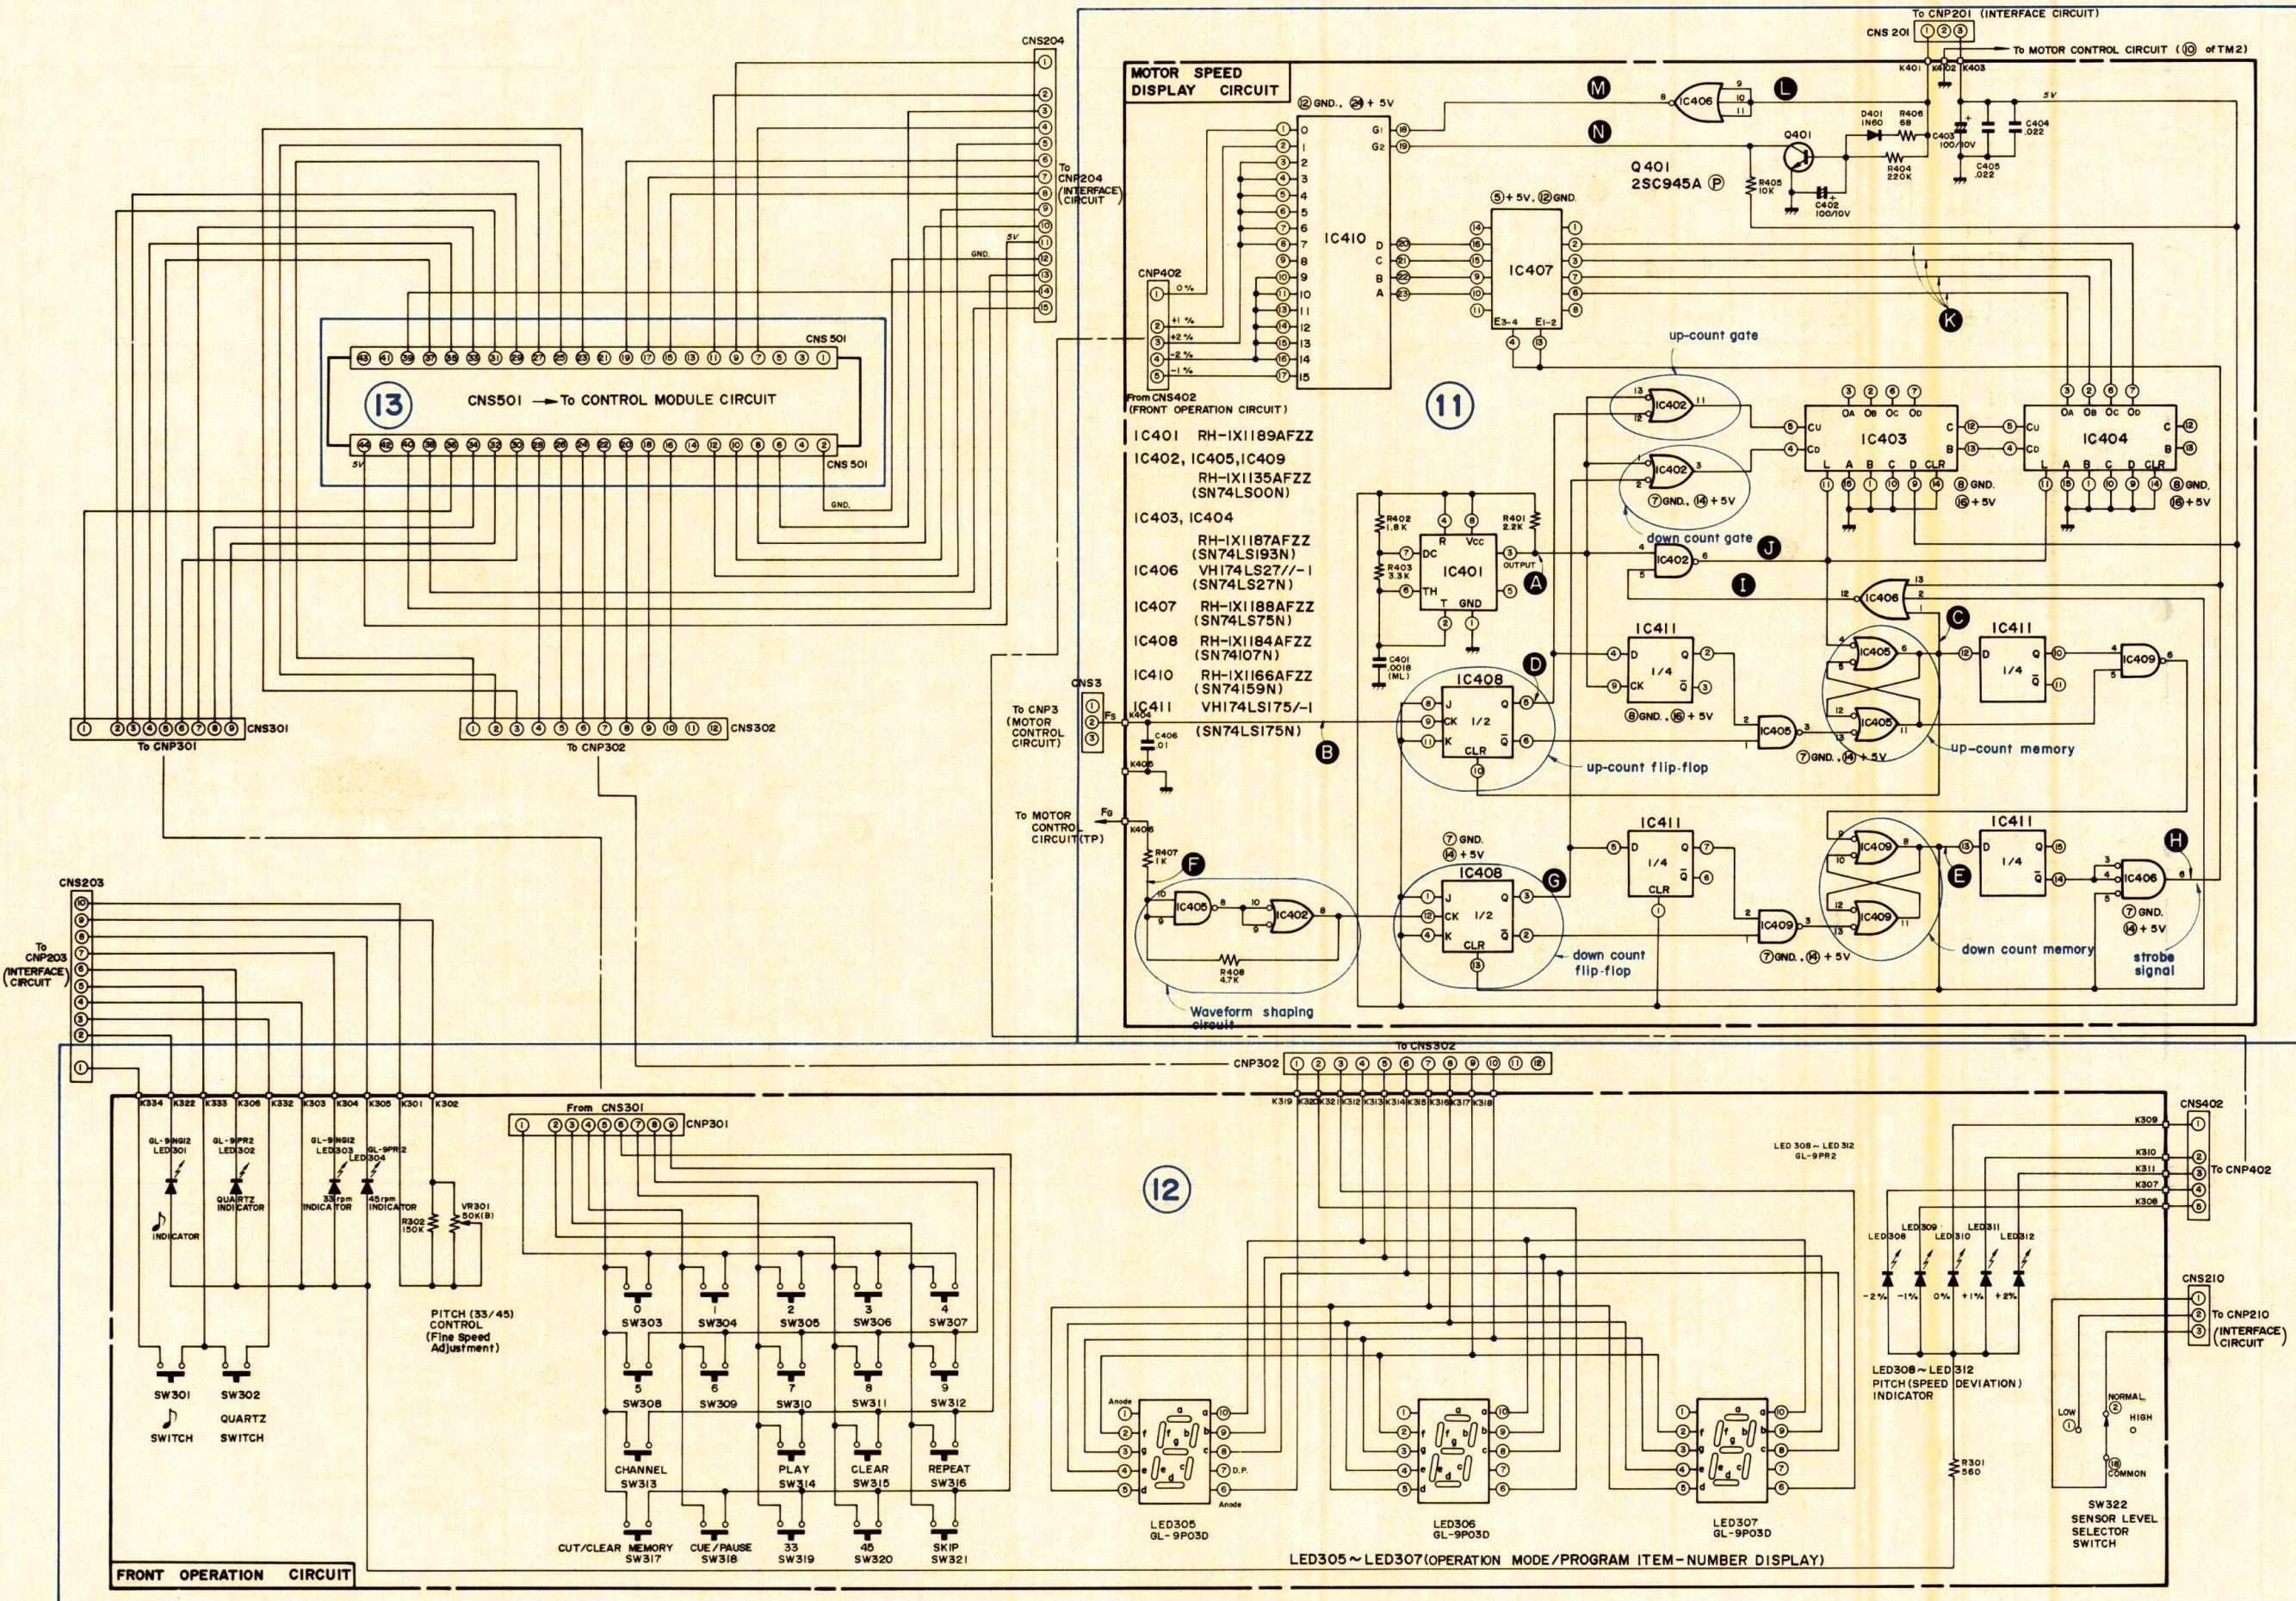

Figure 10 FRONT OPERATION CIRCUIT/MOTOR SPEED DISPLAY CIRCUIT
To put it another way, when the tonearm leaves its rest, the potential at (N) of Figure 10 changes from "High" to "Low" level following a time constant assured by the capacitor C402 and resistor R404, and this changing offers an interval of time during which the pitch indication display (LED) is forced to go off.
Contravise, when the tonearm comes back to its rest, the potential at (M) of Figure 10, in turn, gains "High" level; there, no time constant is given but the pitch indication display (LED) so far form the output signal (Fg) coming from the motor and resistors (R407 and R408), and shapes in wave- (pins (8), (9), (10), IC405 (pins (8), (9), (10) IC401), oscillating at the frequency of 71 kHz.